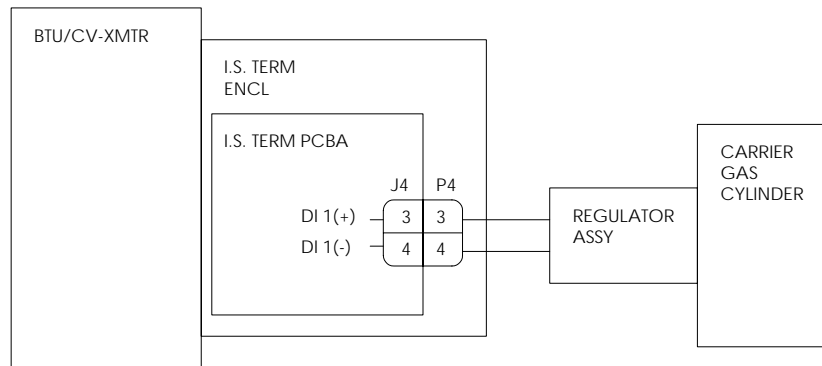

Figure 37 Carrier Gas Low Pressure Switch Installation
- 4) Attach Wires for the High Pressure Gauge to one of the Digital Inputs located in the Intrinsically Safe Termination Enclosure attached to the side of the Btu Transmitter Enclosure (see Figure 37).